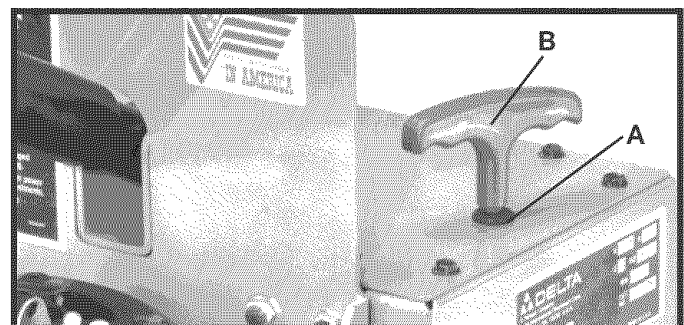

Fig. 41
A hole and rubber grommet (A) Fig. 41, is provided on the top of the machine to store the wrench (B) supplied as shown.